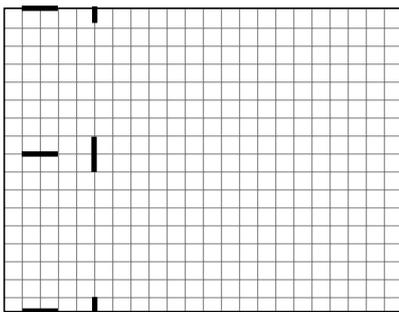

Fig. 1
- 1) Write test patterns on the sheet surface. (See Figures 1 and 2 or step 5) in 5-1. CCD Unit adjustment.)
Write adjustment patterns on the sheet surface using a black marker as shown in Figure 1 when executing only calibration.